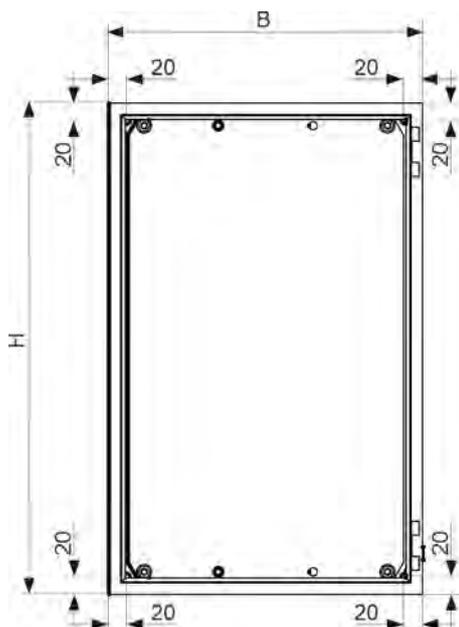

Fig. 6: Wall mounting: DryExx® control unit
**i** When installing on a mounting frame, attach the welding bolts supplied with the equipment to the intended surface as specified in Fig. 6 .
1. ▶ Prepare the mounting equipment as specified in Fig. 6 .